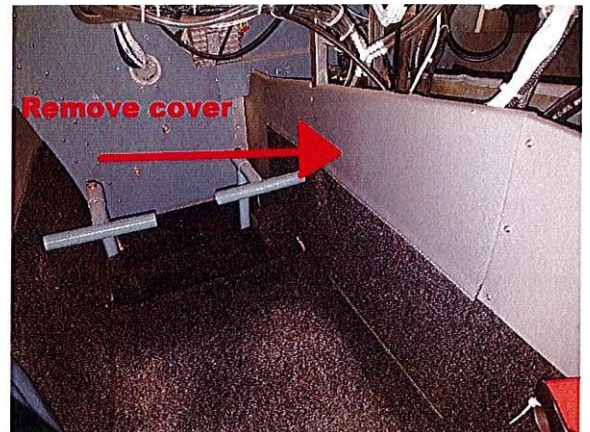

Figure 1 — Illustrates the covers to be removed
3. Remove inspection covers on both right-hand and left-hand side granting access to the rudder pedal stops using 2mm Allen key. (Figure 1)